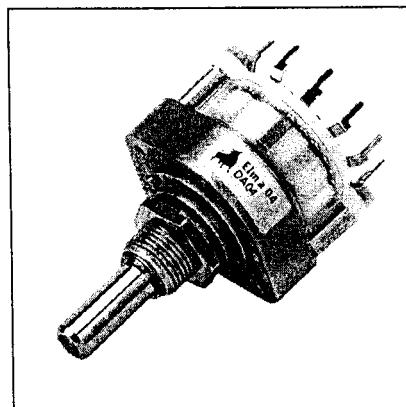

Figure 1 (d) / Rajah 1 (d)
- (d) A switch is mainly used to connect or disconnect a circuit. The configuration of the switch will determine its function. **Figure 1(d)** shows a Rotary Switch: